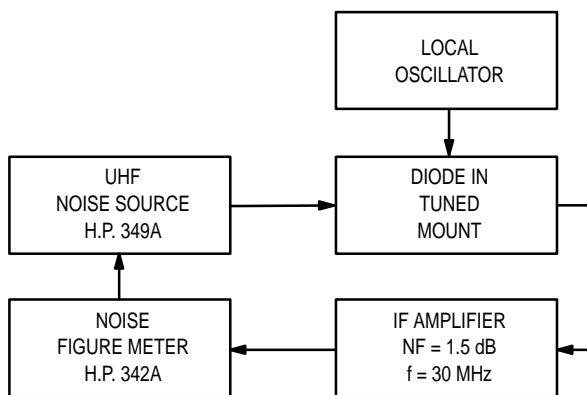

Figure 5. Noise Figure Test Circuit
Note 2 — Noise figure measured with diode under test in tuned diode mount using UHF noise source and local oscillator (LO) frequency of 1.0 GHz. The LO power is adjusted for 1.0 mW. IF amplifier NF = 1.5 dB, f = 30 MHz, see Figure 5.